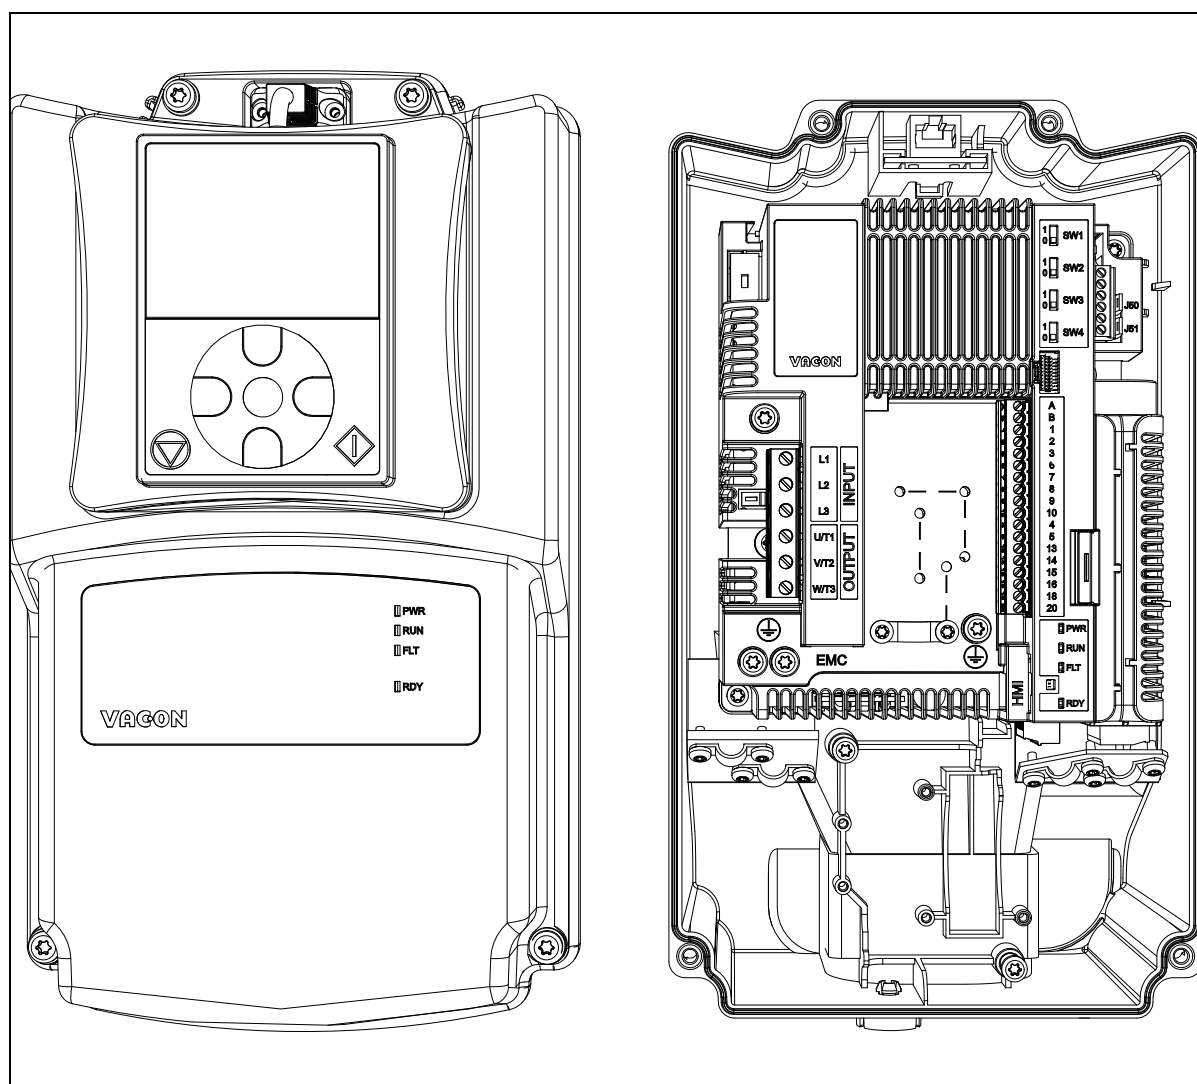

Figure 22. MU2 example: open cover.
- Remove the plastic cover of the drive as shown in Figure 22.